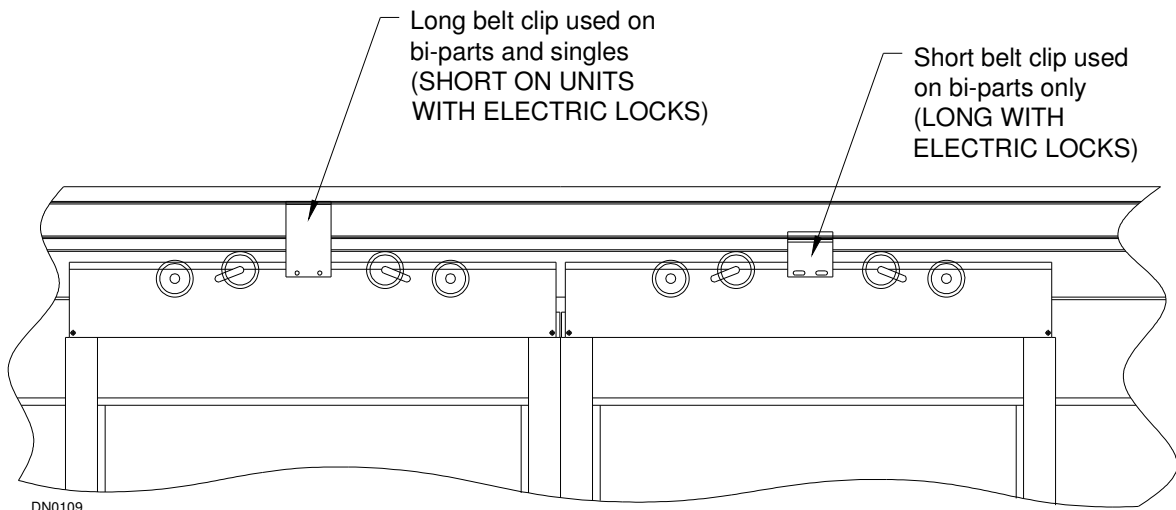

Figure 30
6. Attach belt clip(s) using #12 x 3/4 inch self drilling/self tapping screws. Starter mounting holes have been pre-drilled in door carrier. Belt clips should be installed toward leading edge of doors (See Figure 30)